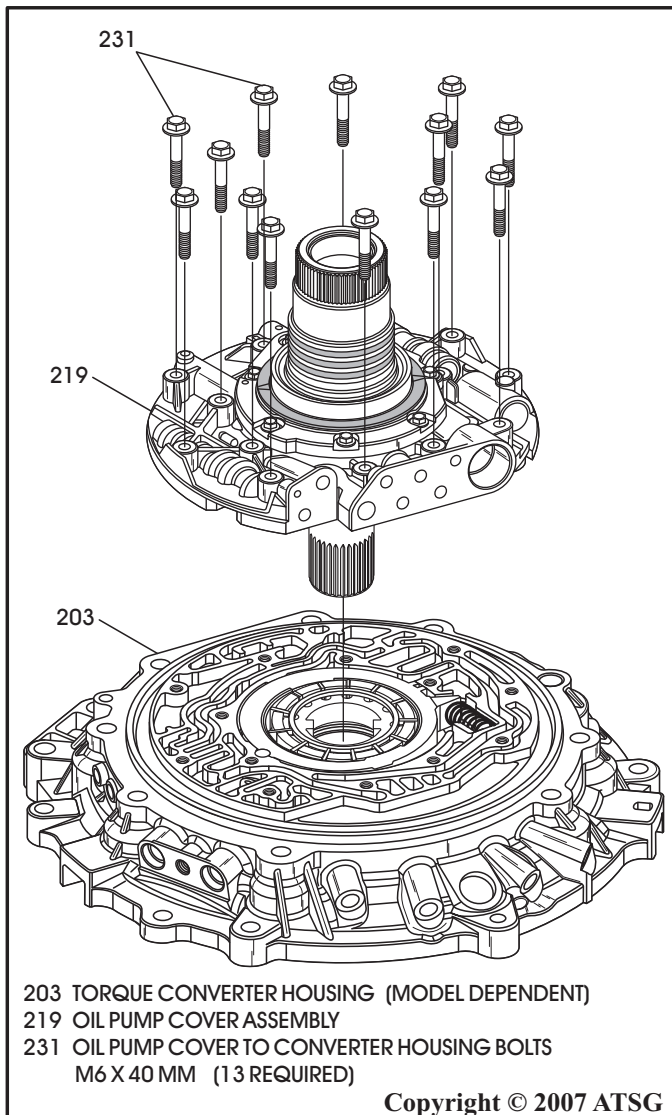

Figure 60
3. Remove the 13 oil pump cover to converter housing bolts, as shown in Figure 60, and remove the oil pump cover assembly.